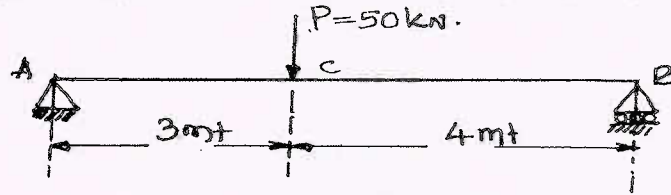

Fig.Q.6(b)
b. Find the deflection under the concentrated load for the beam shown in Fig.Q.6(b). Using Castigliano's theorem and take  $E = 2 \times 10^8 \text{ kN/m}^2$  and  $I = 14 \times 10^{-6} \text{ m}^4$ . (12 Marks)